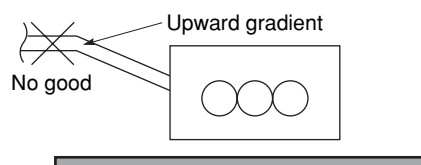

Fig. 3-67
- Do not install the pipe with an upward gradient from the connection port. This will cause the drain water to flow backward and leak when the unit is not operating. (Fig. 3-67)